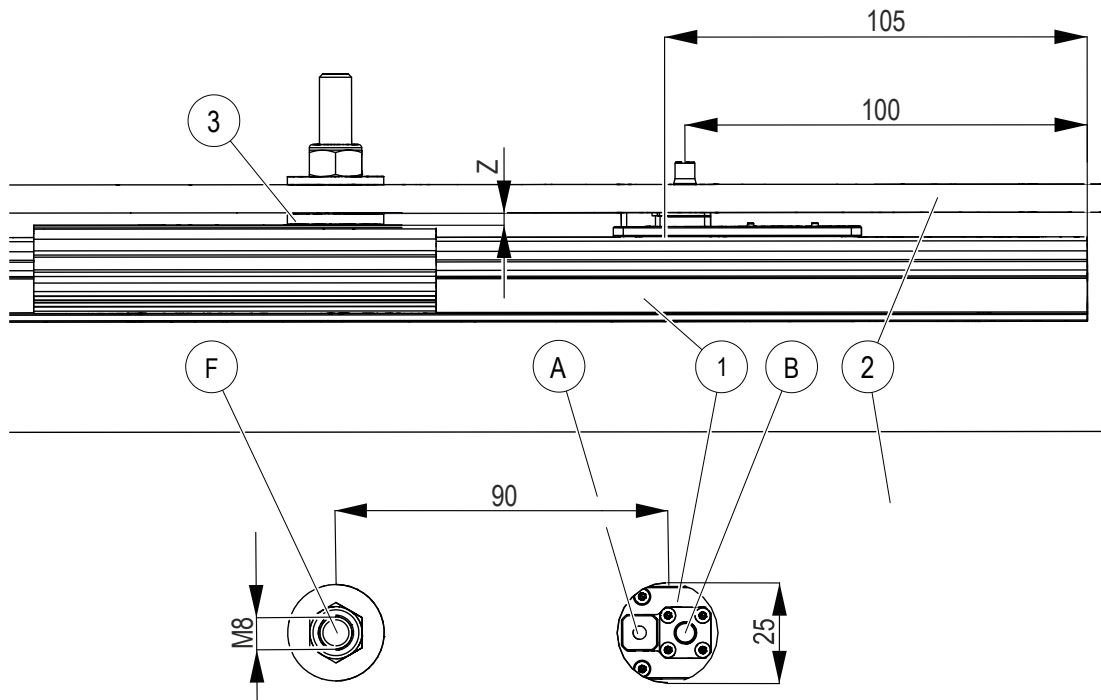
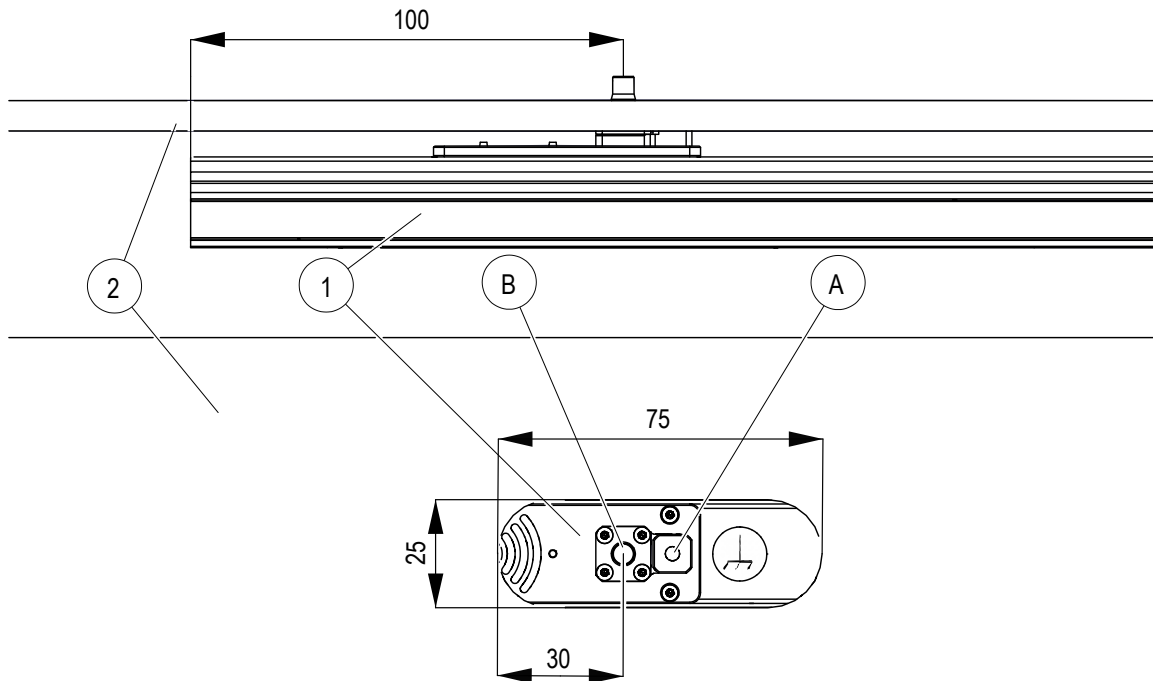
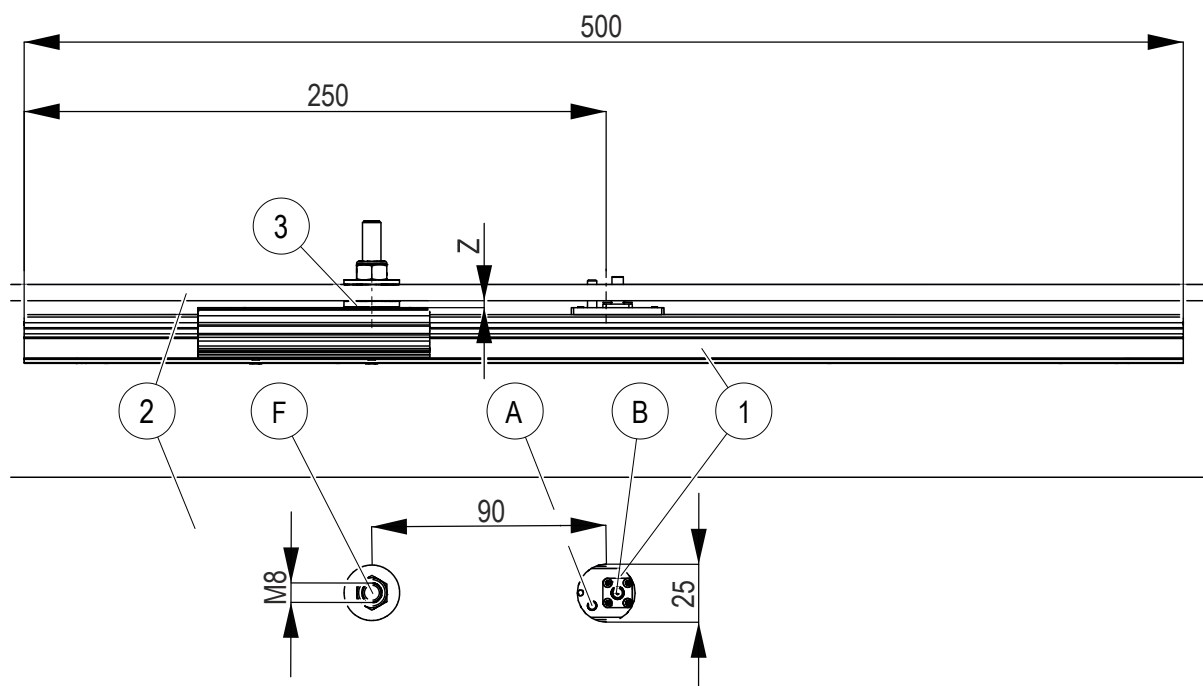
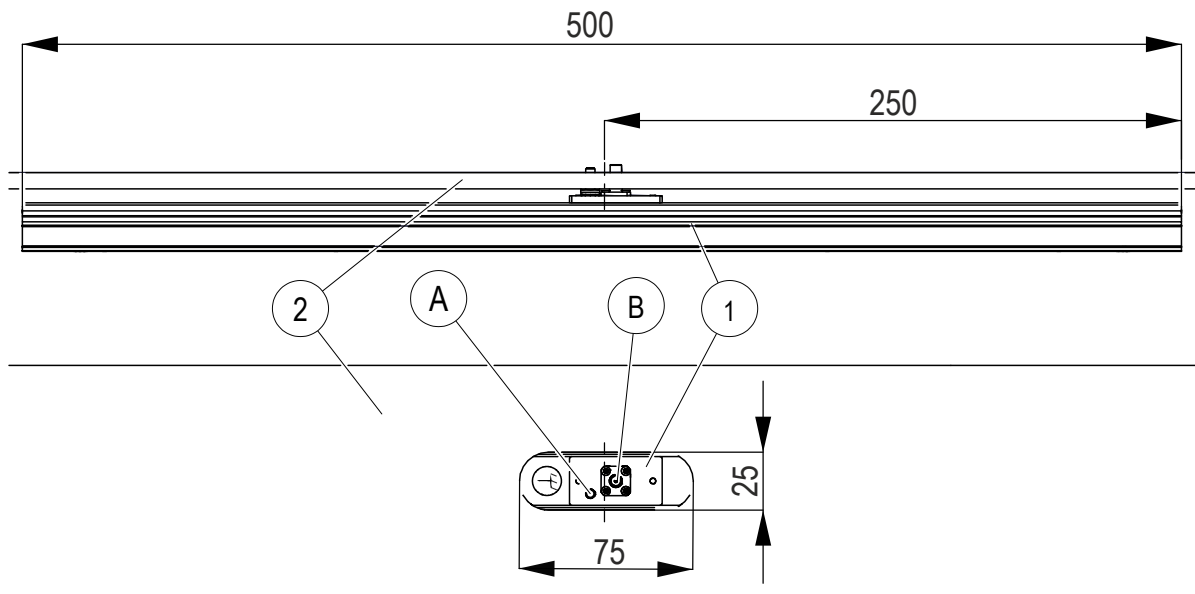

Fig. 47: Through hole in support profile (2) for stationary antenna (1) for anchor point (F)
Fig. 48: Through hole in support profile (2) for stationary antenna (1) without anchor point (F)
Fig. 51: Through hole in support profile (2) for stationary antenna (1) with anchor point (F)
Fig. 52: Through hole in support profile (2) for stationary antenna (1) without anchor point (F)
- With anchor point (F): Hole  $\varnothing$  25 mm (Fig. 47)
- Without anchor point: Elongated hole 25x75 mm (Fig. 48)
If data transmission faults occur within the construction due to excessive shield currents or excessive potential differences, an equipotential bonding cable can be attached to Position A using the cable lug and fasteners supplied (Fig. 47 and Fig. 48 (signal propagation on one side) or Fig. 51 and Fig. 52 (signal propagation on both sides)).
The HF cable for the data power feed is connected to Position B (Fig. 47, Fig. 48, Fig. 51, Fig. 52 and Section 6.5.1).